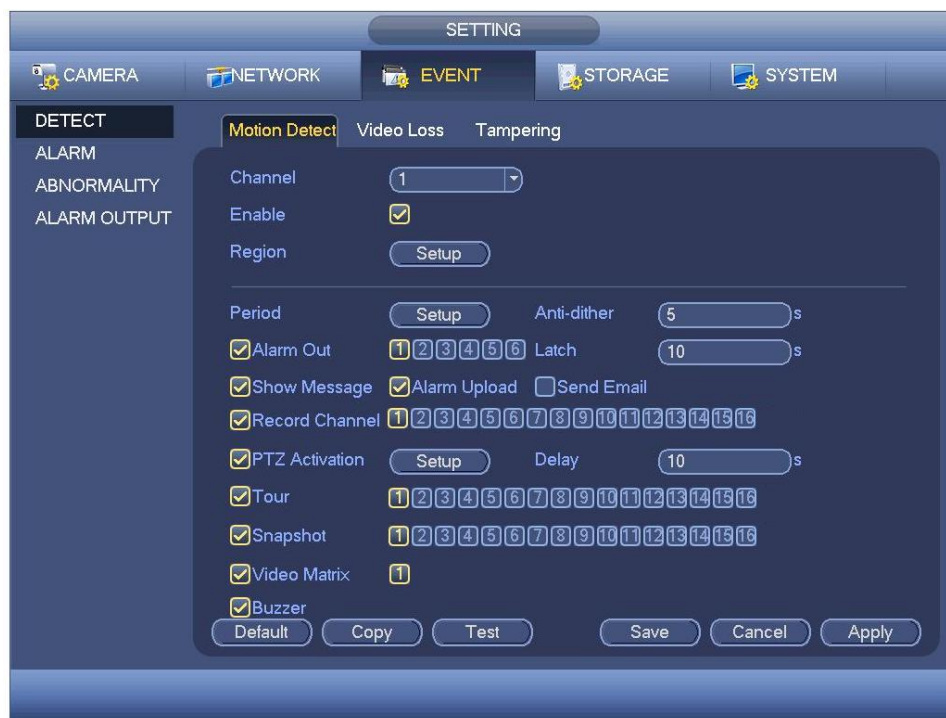

Figure 4-42
- From Main menu->Setting->Event->Detect, you can go to the following interface. See Figure 4-42.